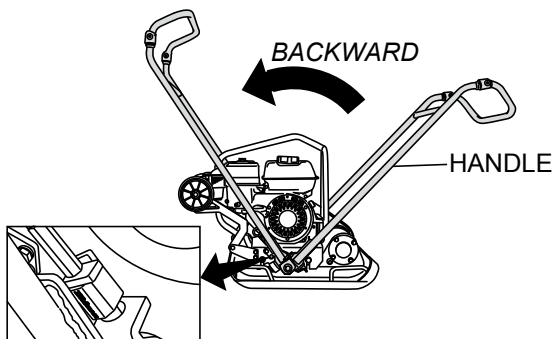

Figure 9. Moving Handle Backwards
4. Move the handle backwards and check that it is locked in place (Figure 9).